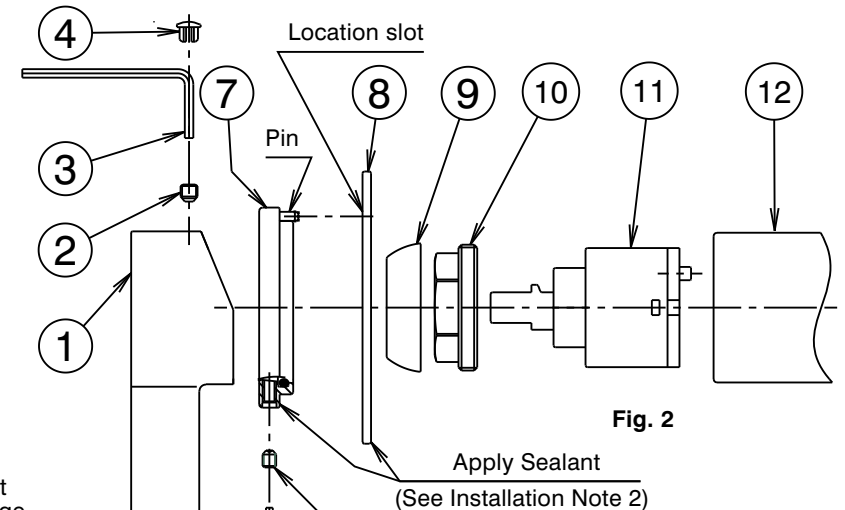

Fig. 2
- 2) Apply a suitable clear sealant to the back face of the cover plate (8), leaving an unsealed section at the bottom for drainage. Apply a suitable clear sealant in the corner around the location diameter of the retaining ring (7) to prevent water entering the wall cavity (See Fig 2).
Replacing Cartridge (Fig. 2)